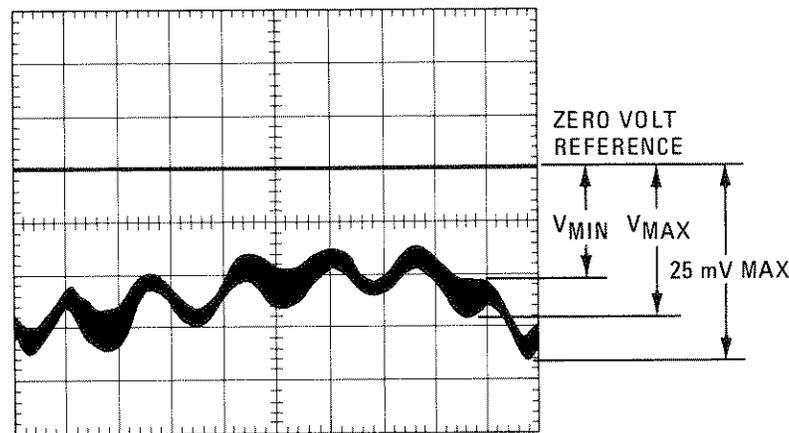

Figure 4-11. Typical Low Frequency Swept SWR Measurement
4. Select several points on the trace and calculate V_{MAX}/V_{MIN} (see Figure 4-11).